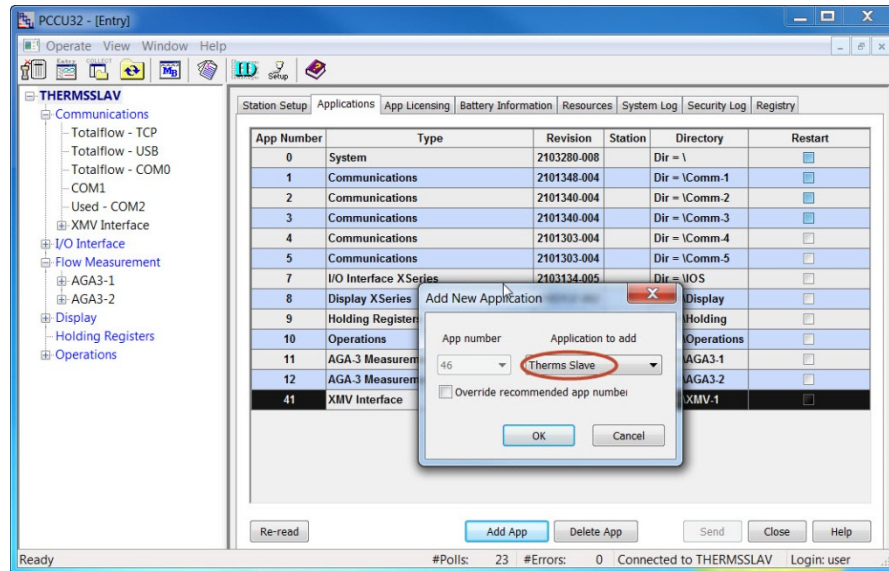

Figure 34. Adding the Therms Slave
- 2) Click the Add Application button (see Figure 34).